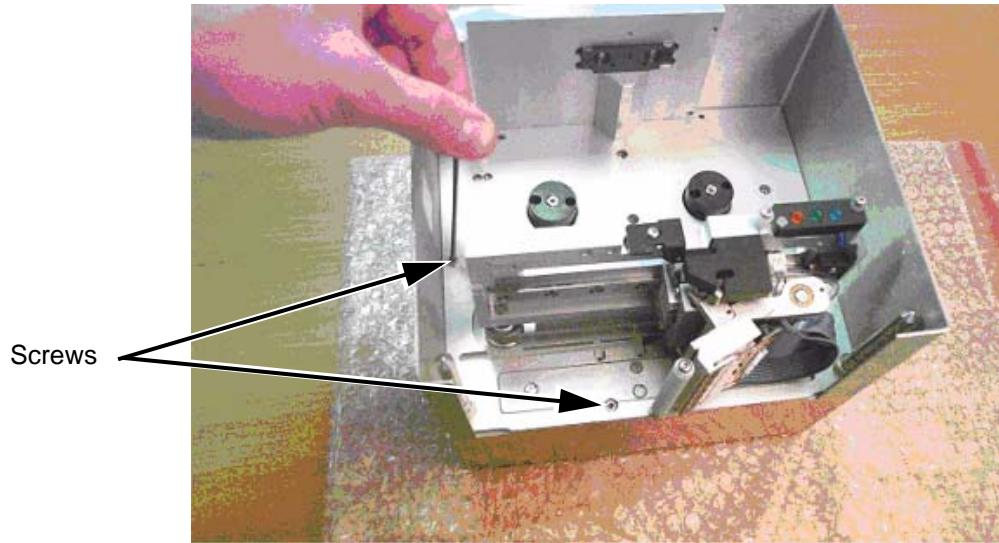

Figure 5-17: Printer Rear Cover - Screws Removal
- 3 To remove the rear cover, remove the two screws as shown in Figure 5-17.